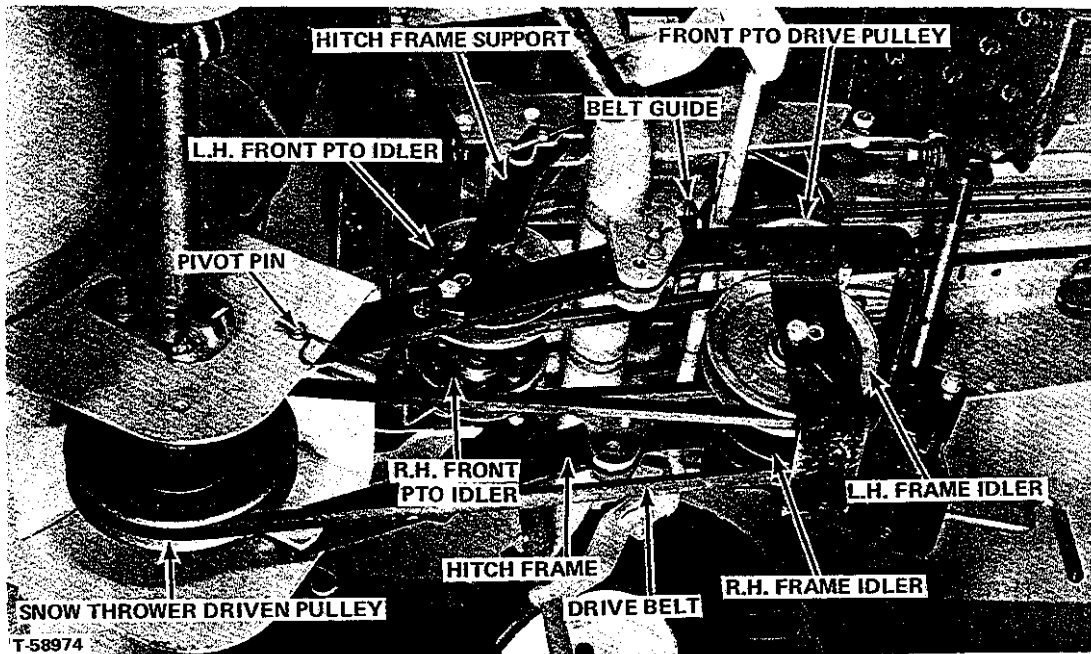

FIGURE 3 - View from Under Front L.H. Side of Tractor (Wheel Off)
5. Loosen the bolts that mount the R.H. and L.H. front PTO idlers enough that belt guides can be pushed away far enough to install drive belt (Figures 3 and 4). Place PTO clutch in disengage position.
6. Carry strand of belt from lower side of snow thrower driven pulley to the rear and place it around the R.H. frame idler with "V" side of belt toward idler. Also bring strand of belt from top of driven pulley to rear and place it over L.H. frame idler with the flat top side of belt toward idler as shown in Figures 3 and 4.
8. Place end of belt back over top of axle, through rectangular loop of belt guide and over front PTO drive pulley (Figures 3 and 4).